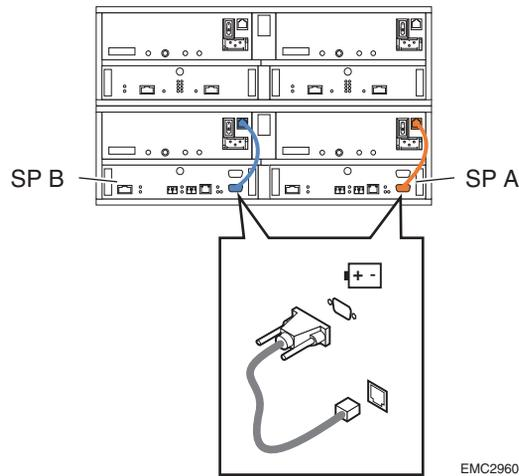

Figure 2-6 Connecting dc Power Supplies to the CX300 SPS Ports
1. Connect DB9-RJ12 sense cables (sometimes called SPS emulator cables) between each power supply and the SPS serial connector on its corresponding storage processor, as shown in Figure 2-6 on page 2-11.